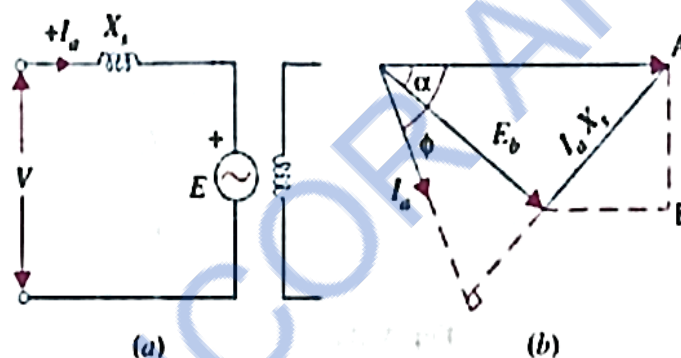

Figure 4.40 Synchronous motor- power developed
- Hence, the equivalent circuit for the motor becomes as shown in Fig. 4.40 (a). From the phasor diagram of Fig. 4.40 (b). It is seen that